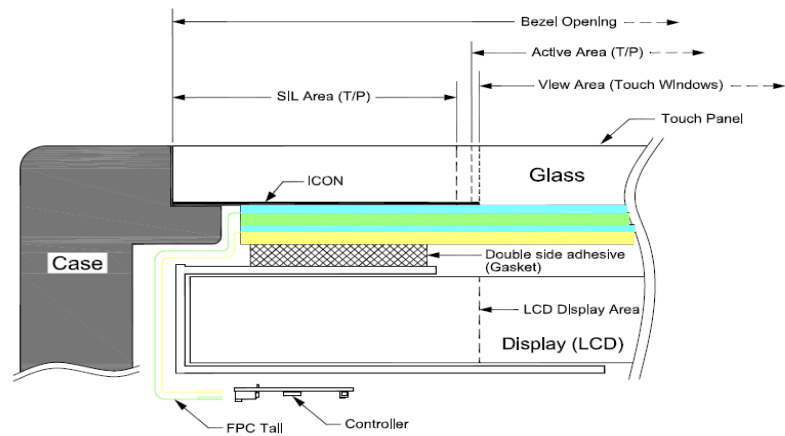

Figure 12-1
(1)	<p>The gasket support of touch panel must be designed on the outside of Viewable area, as well as to avoid pressing on touch panel accidentally, the enclosure must be designed with enough clearance to panel surface. To avoid pressing error on touch panel accidentally, please remain space between the surface of panel and the Bezel. (Figure 12-1)</p> <p>[請將固定觸控屏用的支撐體(support)設計於可視區(Viewable area)之外。為避免不小心碰到觸控屏而產生動作，請預留空間於面板與機體外殼之間](圖示 12-1)</p>